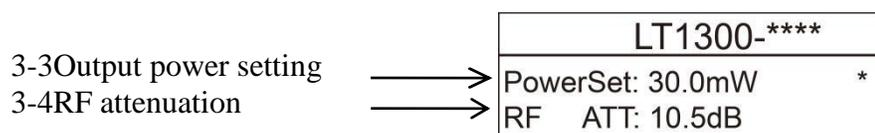

Figure 7.2.12
(3) Set the output power value and RF level attenuation (attenuation range 0~26.5dB). In the 7.2.11 interface, press the ▼ key, the "\*" will follow down, the display interface as shown in Figure 7.2.12, according to 7.2.4 (2) of the operation steps, can be set to 3-3,3-4 set. Among them, 3-3 step 0.1mW, 3-4 step 0.5dB.